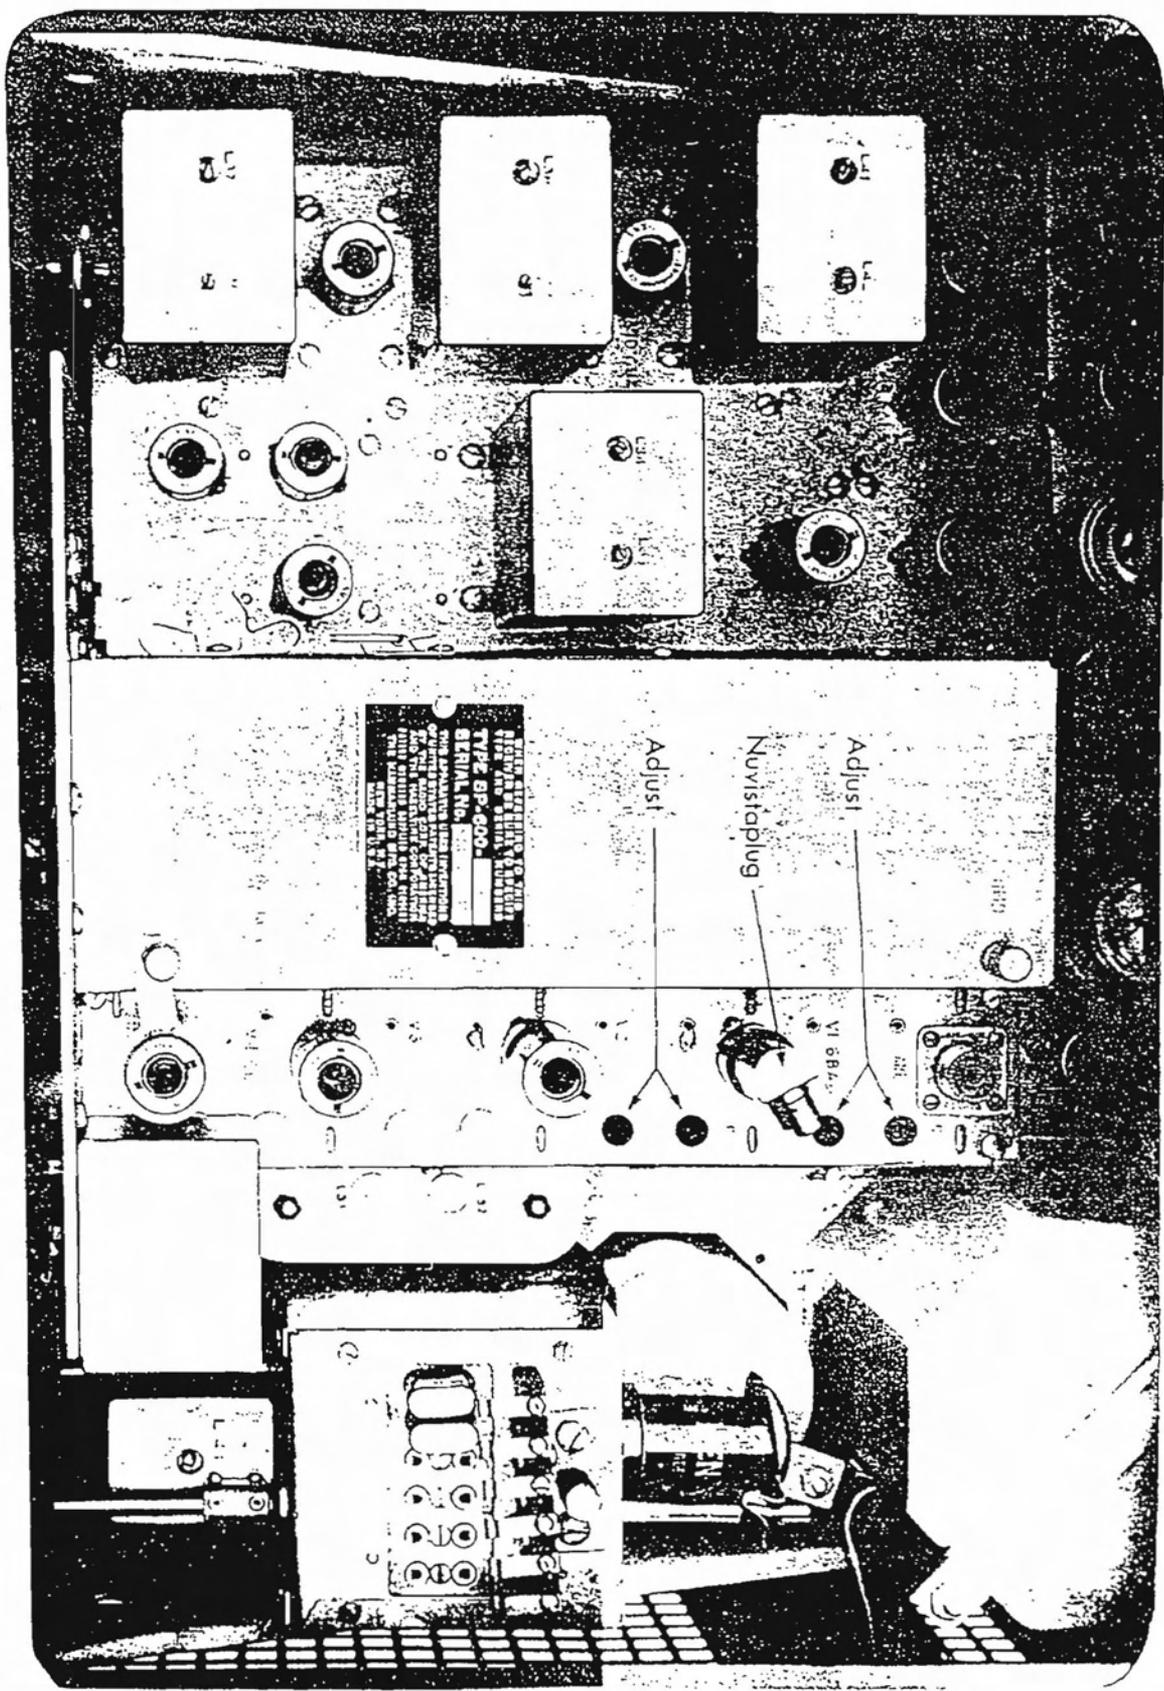

FIGURE : 2 NUVISTAPLUG IN SP-600
6. Adjust the trimmers for the antenna and the first RF stage while listening to the tone output (See Figure 2). Each time an improvement is made, decrease the amplitude of the CW generator output so that the audio tone is barely heard under the internally generated white noise of the receiver. In most cases the two trimmer capacitors marked "C" need to be readjusted, but the two trimmer inductors marked "L" do not need readjustment.